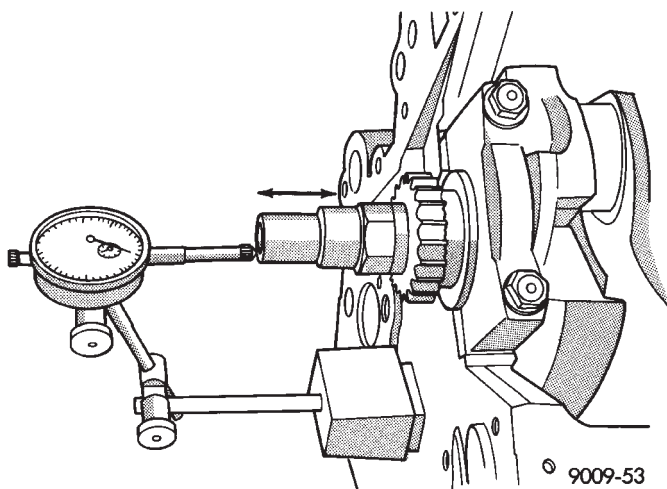

Fig. 22 Crankshaft End Play—Typical
- (1) Mount a dial indicator to front of engine, locating probe on nose of crankshaft (Fig. 22).
- (2) Move crankshaft all the way to the rear of its travel.
- (3) Zero the dial indicator.